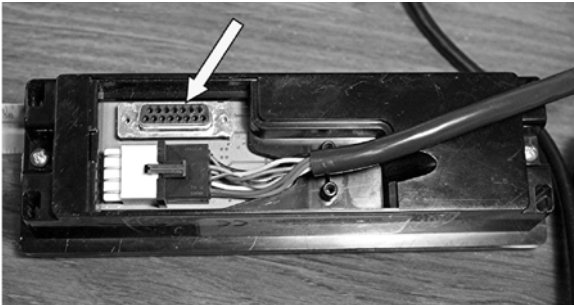

Figure 46: 15 Pin "D" Connector
4. Connect a Thermo King 9 to 15 pin serial cable from the PC computer to the 15 pin connector on the back of the TSD Control Panel shown in Figure 46.